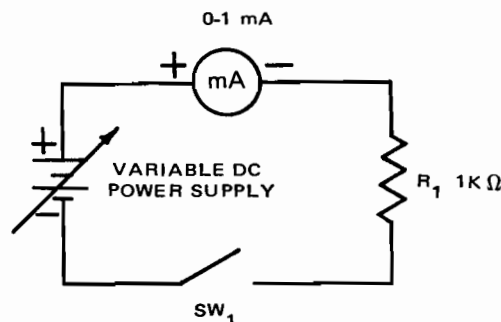

Fig. 8-2-1
1. Construct meter test circuit shown in Fig. 8-2-1. Do not turn on circuit switch at this time.